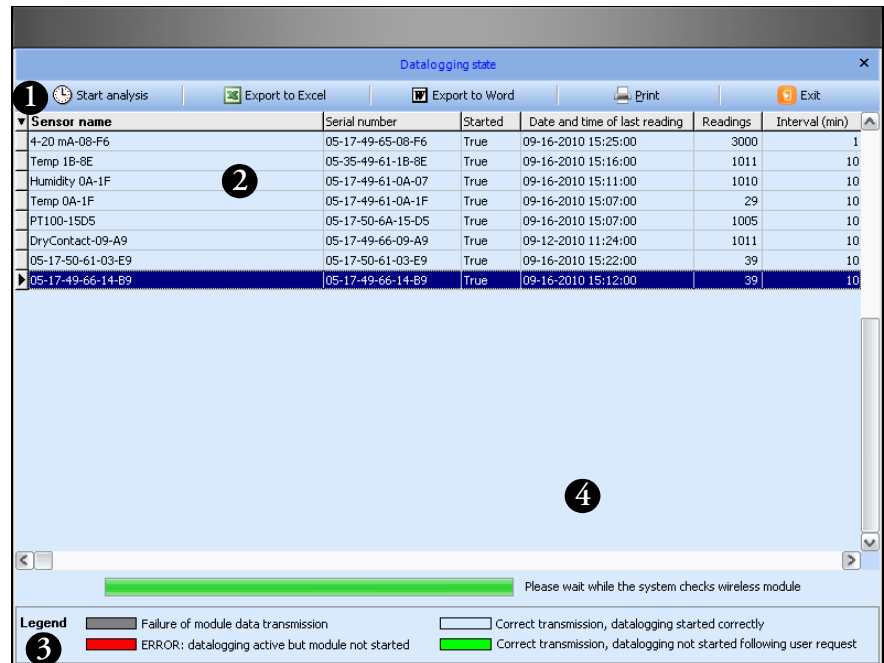

Figure 99. Data logging status window
2. Click on Start analysis (#1 in Figure 99) to begin testing.